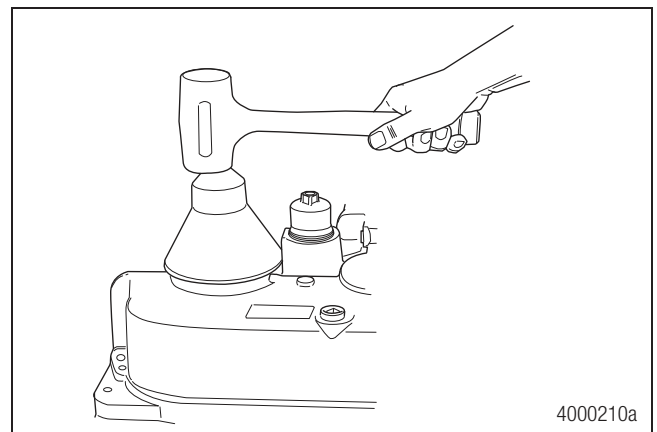

Figure 7.39
1. Install the front output shaft oil seal using the appropriate seal driver. Drive the seal until it is fully seated. Figure 7.39.